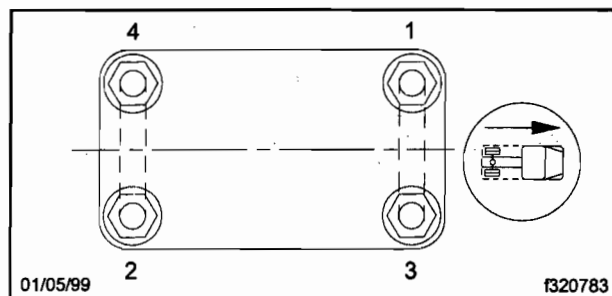

Fig. 7, U-Bolt Nut Tightening Sequence
- 7.5 Lubricate the threads of the new U-bolts to prevent galling, then install the new U-bolt nuts and tighten them evenly to 60 lbf-ft (81 N·m) in the sequence shown in Fig. 7.